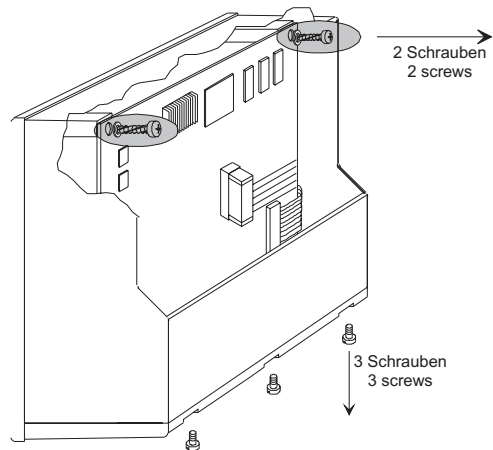

Fig. 8-3: Unscrew and removal of main pcb and connector panel
5. Take out the two screws fixing the main pcb. Remove the three screws at the bottom of the PortaMonitor which hold the connector panel in place. Carefully remove connector panel and main pcb. (fig. 8-3)